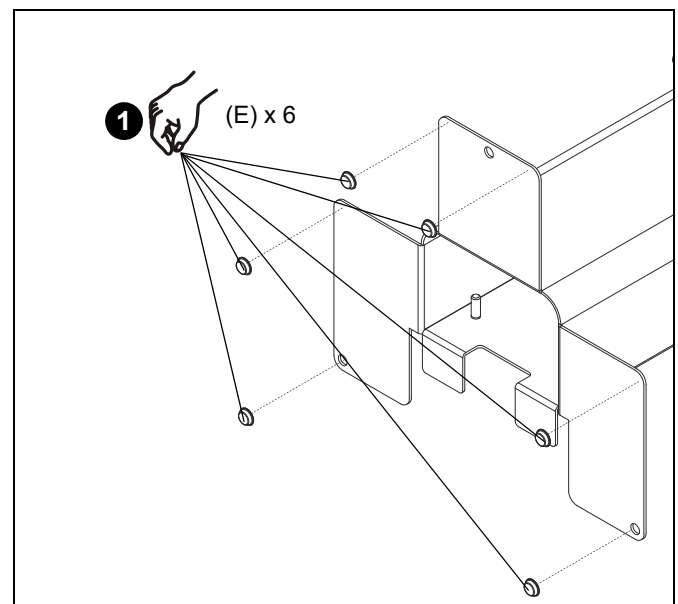

Figure 8
1. Remove adhesive from behind rubber feet (E) and install feet on underside of base. (See Figure 8)